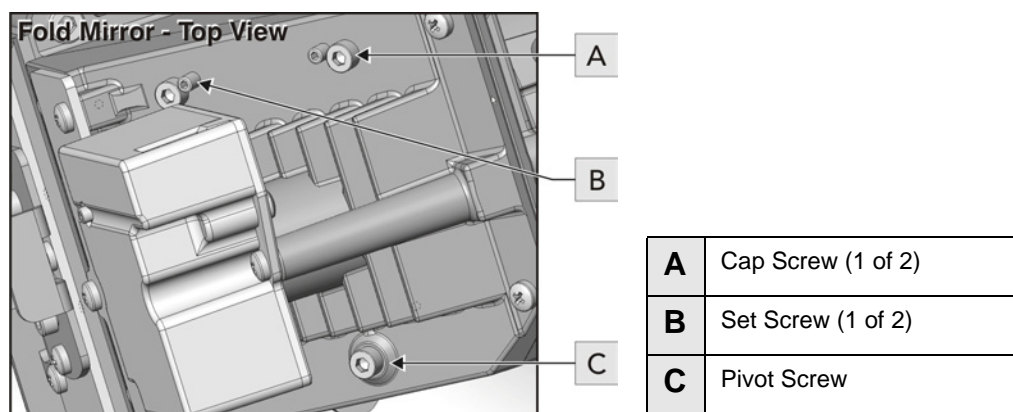

Figure 4-5 Fold Mirror Adjustment
1. Unlock the two set screws with a 1.5mm hex key (**Figure 4-5/B**).
2. Turn the pivot screw 90-180° using a 2.5mm hex key (**Figure 4-5/C**).
3. Adjust both cap screws with a 2.5mm hex key (**Figure 4-5/A**).